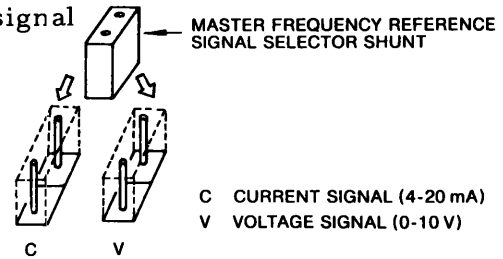

Fig. 12 Master Frequency Reference Signal Selection
(7) Selection of master frequency reference signal
When the frequency reference signal is input from input terminal ⑨, select either a current signal (4 to 20 mA) or a voltage signal (0 to 10 V) (Fig. 12). The voltage reference signal (V) is factory-selected.